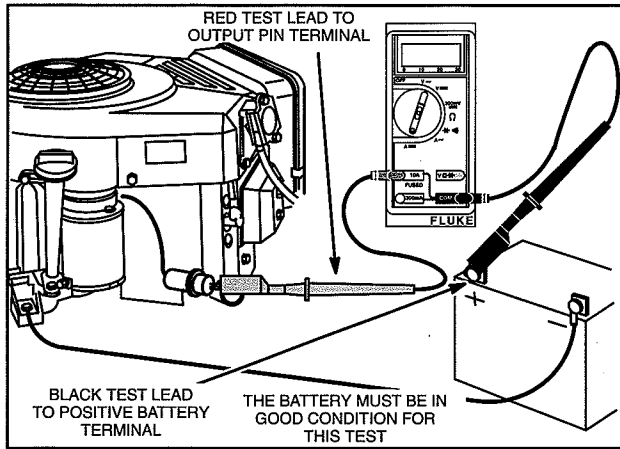

Fig. 12 – Testing DC Output
4. Attach RED test lead clip to DC output terminal, Fig. 12.